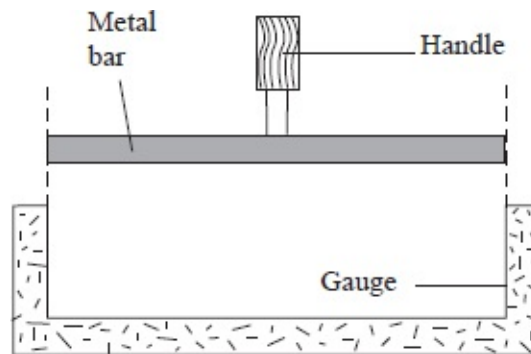

Fig. 6.2: Bar and gauge
- Fit a metal bar in the gauge when cold as shown in figure 6.2 and note what happens.